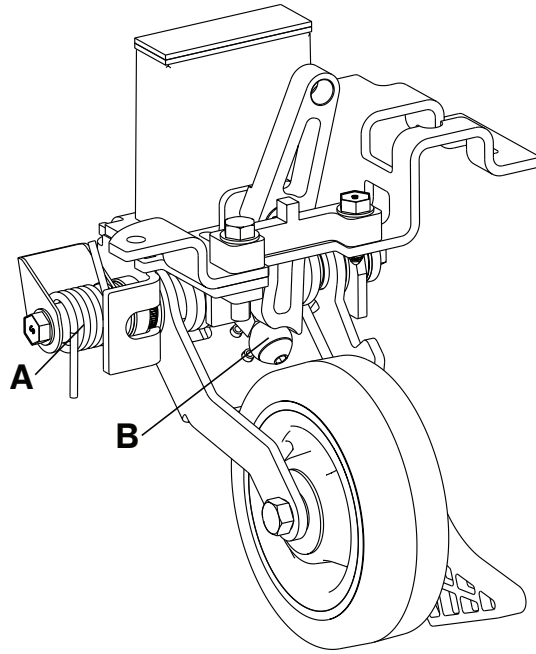

Figure 22 – Retractable fifth wheel lubrication
3. Apply MPG-3 grease to the spring (A) and roller (B) (Figure 22).